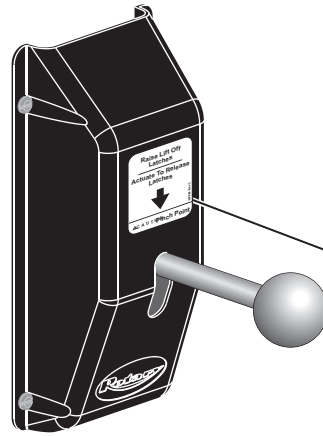

Fig. 40
31. Latch Release Decal For M Series Lifts: Install latch release decal on cover above latch release handle, Fig. 40.